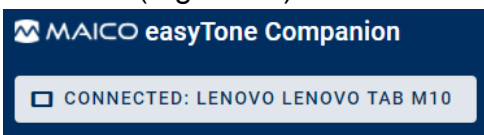

Figure 60
- Press **Close**. The connected tablet is displayed in the easyTone Companion Software (Figure 60).